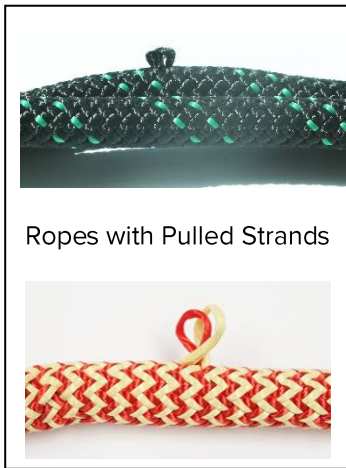

Fig. 2a
- Do not use rope that shows signs of excessive wear such as but not limited to those shown in Fig. 2a through 2d.